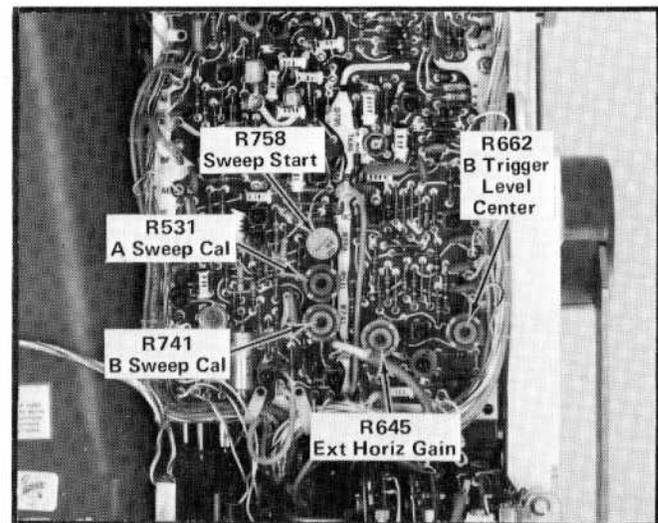

Fig. 5-13. Location of B Triggering and B Sweep Adjustments (B Sweep board).
i. ADJUST—B Trigger Level Center adjustment R662 (see Fig. 5-13) for a stable display.
j. ADJUST—Sweep Start adjustment R758 (see Fig. 5-13) so intensified portion starts at second marker (preliminary adjustment).
m. ADJUST—A Sweep Cal adjustment R531 (see Fig. 5-13) so intensified portion starts at tenth marker (preliminary adjustment).
q. ADJUST—Sweep Start adjustment R758 (see Fig. 5-13) so displayed pulse starts at the beginning of the sweep.
t. ADJUST—A Sweep Cal adjustment R531 (see Fig. 5-13) so displayed pulse starts at the beginning of the sweep.
e. ADJUST—B Sweep Cal adjustment R741 (see Fig. 5-13) for one marker each division.
g. ADJUST—Ext Horiz Gain adjustment R645 (see Fig. 5-13) for five divisions horizontal deflection.